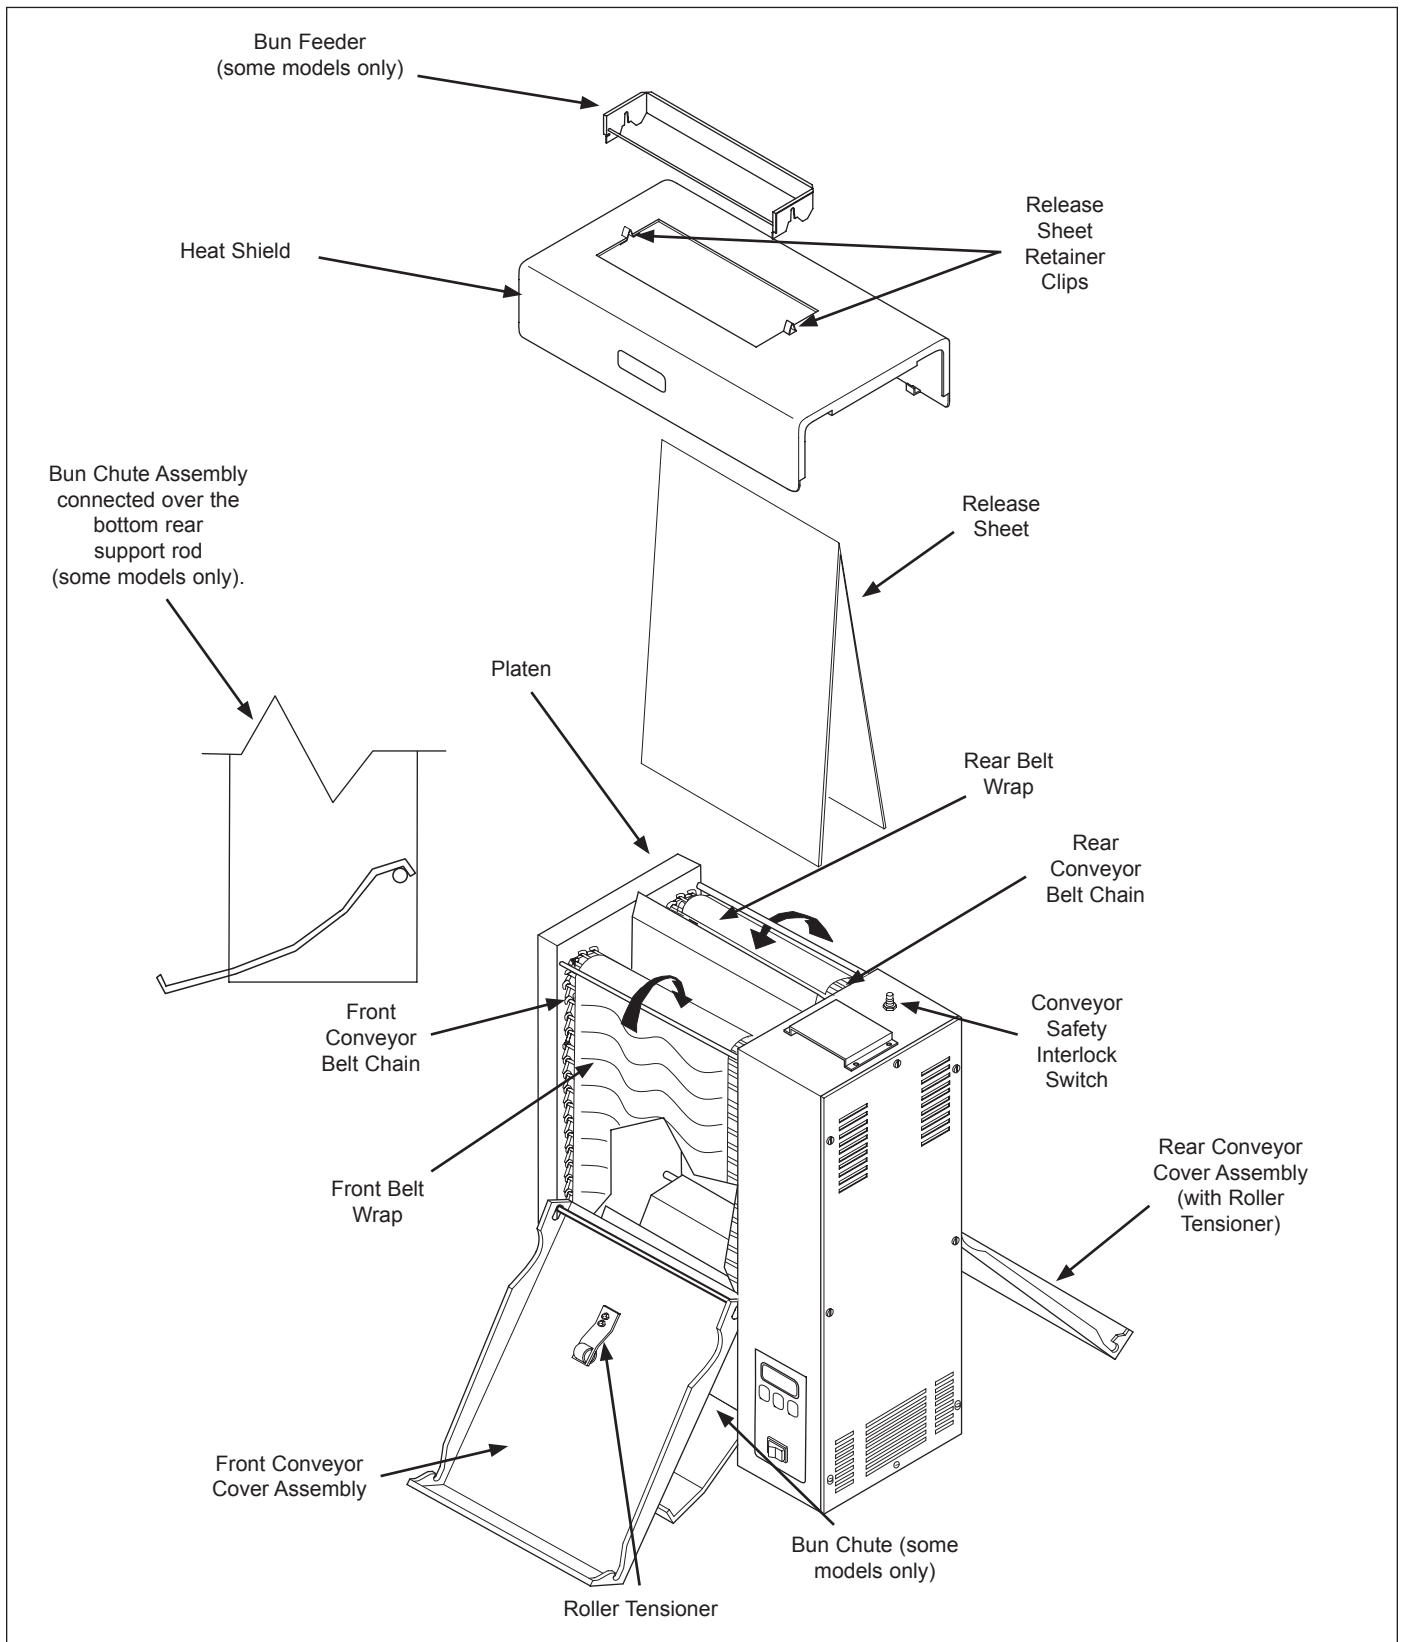

Figure 1. VCT-2000 Toaster
NOTE: The factory has pre-installed a Release Sheet over the Platen (Figure 1). Verify that it is properly in place before proceeding.
Remove Bun Chute and Bun Feeder from the box and install (Figure 1).
IMPORTANT: Make sure Heat Shield is activating the Conveyor Safety Interlock Switch (Figure 1). The conveyors will not rotate unless the Heat Shield is in place and Conveyor Safety Interlock Switch is activated.
2. Put on heat-resistant gloves and remove the Butter Wheel (if equipped), Pan, and Heat Shield (Figure 1).